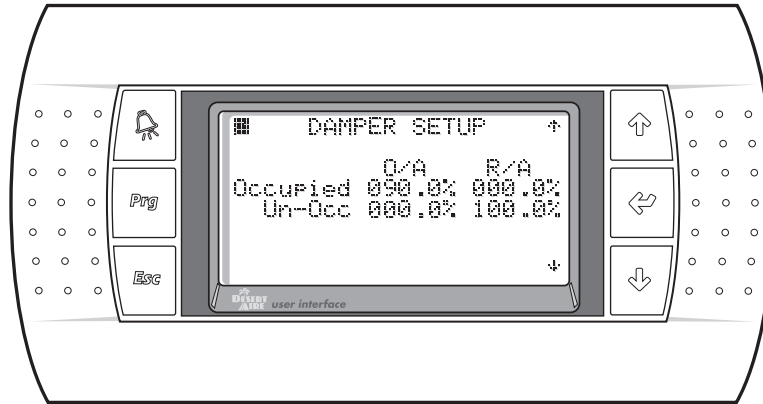

Figure 26
2.4.2. Damper Setup (Figure 26)
Setting the blower operation for continuous or recirculation will allow the damper setup screen to be viewable (Figure 26). This screen allows the positions of the outdoor air and recirculation air to be set in the Occupied and Un-Occupied modes. The range of these settings is from 0.0 to 100.0%. To modify the settings, press the **ENTER** key and use the **UP** and **DOWN** keys until the desired setting is shown. Press the **ENTER** key to accept the setting.